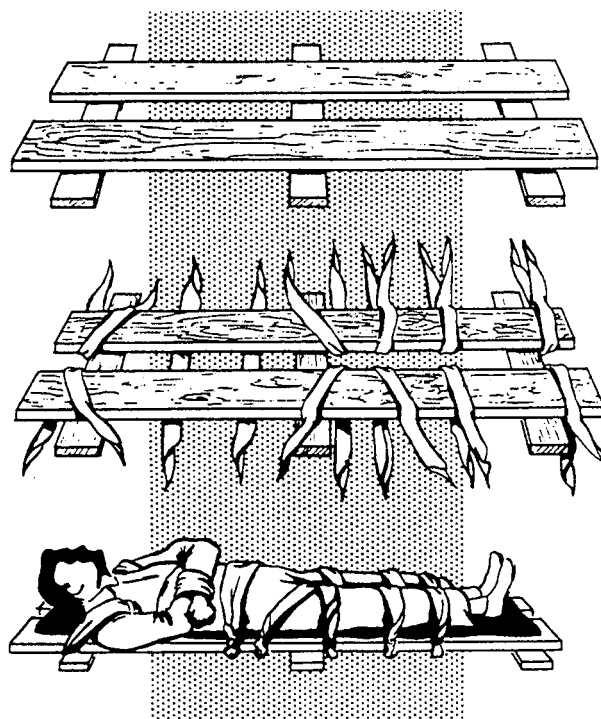

Figure 10-55.—Improvised frame for transporting victim with fractured spine.
3. No matter where the spine is broken, USE A FIRM SUPPORT IN TRANSPORTING THE VICTIM. Use a rigid stretcher, or use a door, shutter, wide board, or a frame similar to that shown in figure 10-55. Pad the support carefully, and put blankets both under and over the victim. Use cravat bandages or strips of cloth to fasten the victim firmly to the support.